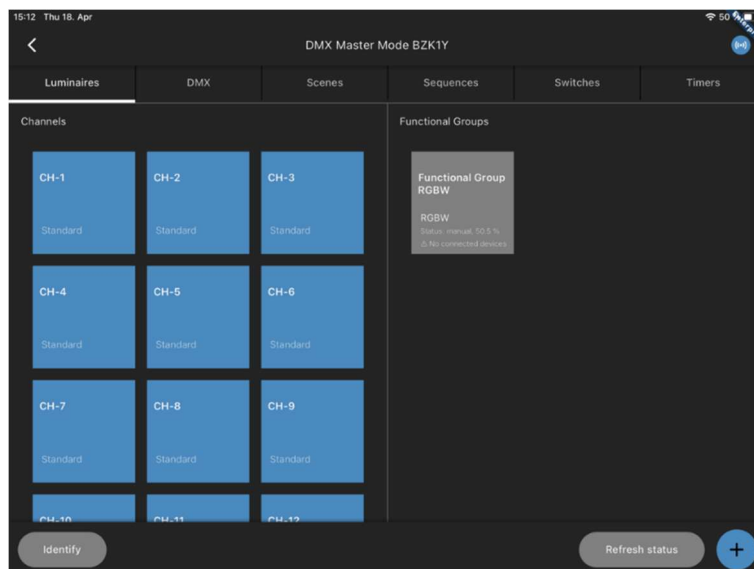

Figure 103: View with created functional group
- Only one Functional Group (FG) → Address the DALI driver and add it to the FG.
- Multiple FGs → Check if multiple addresses are missing. If this is the case, a standard reconfiguration (Figure 103) is required to correctly assign DALI drivers.